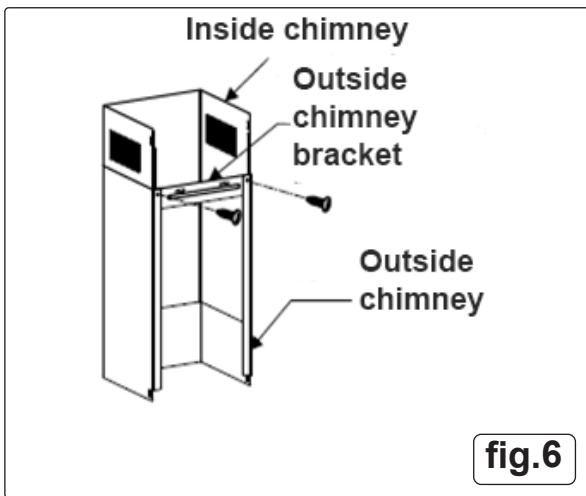

fig.6
- Fix the outside chimney bracket on the outside chimney, and be sure that the inside chimney can be adjusted for height. See fig.6.